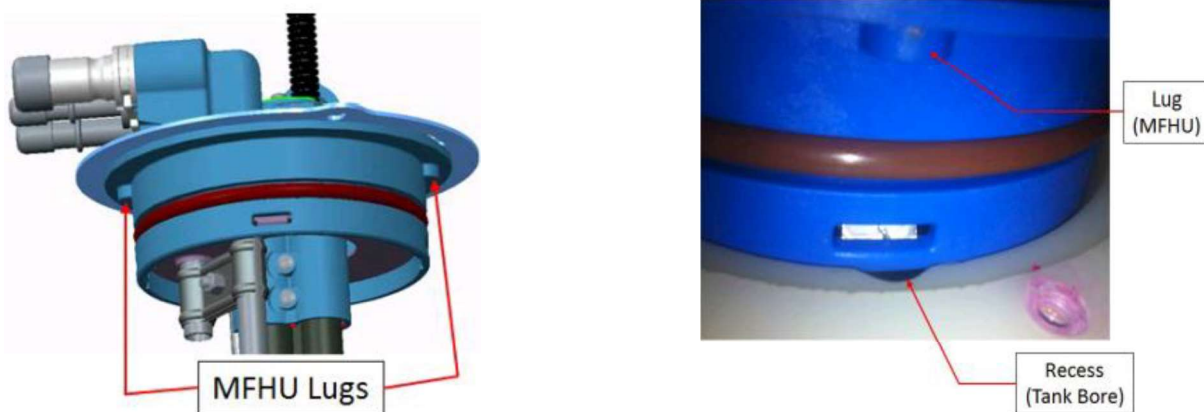

Figure 5.2
8. Position the DEF head unit in the desired orientation (lugs on the MFHU should align with the cut out/recess on the tank bore) and orient the Coolant and DEF Fittings. *Reference Figure 5.2 and 6.1.* Press on the top of the MFHU mounting base until it is completely seated in the tank bore.